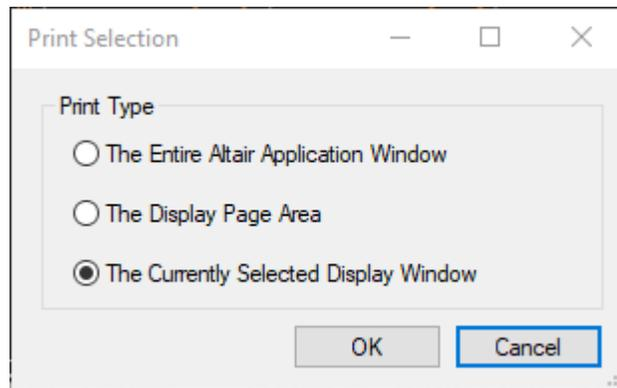

Figure 148 – Print Type Selection Form
1. On the ALTAIR main screen, select the menu option **File\Print** or **File\Print Preview**. The print selection screen will be displayed. (See Figure 148 – Print Type Selection Form below.)